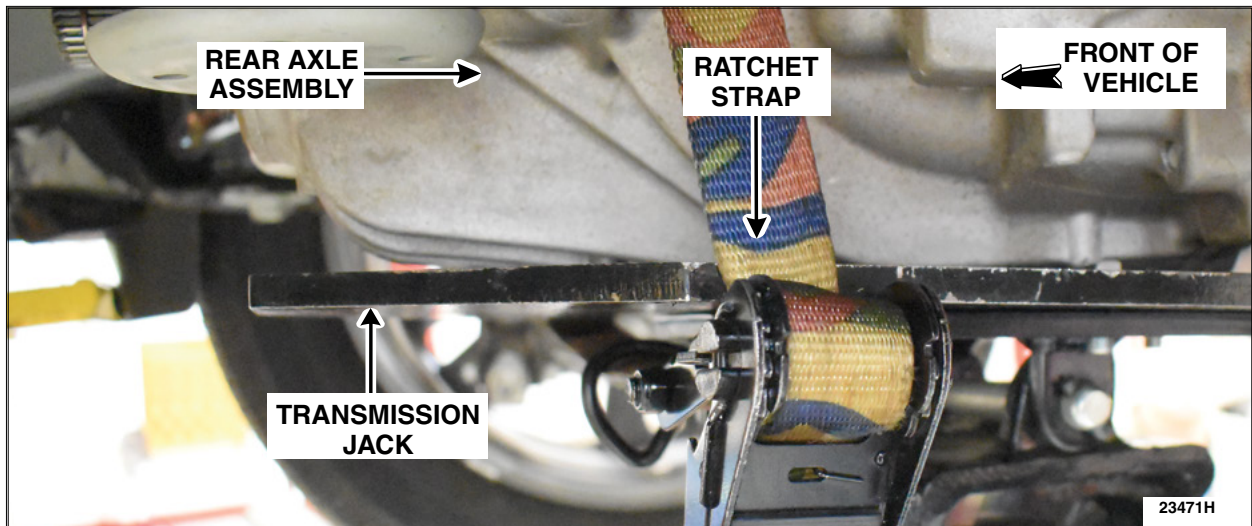

FIGURE 10
16. Secure the rear axle assembly to the transmission jack using a ratchet strap. See Figure 10.